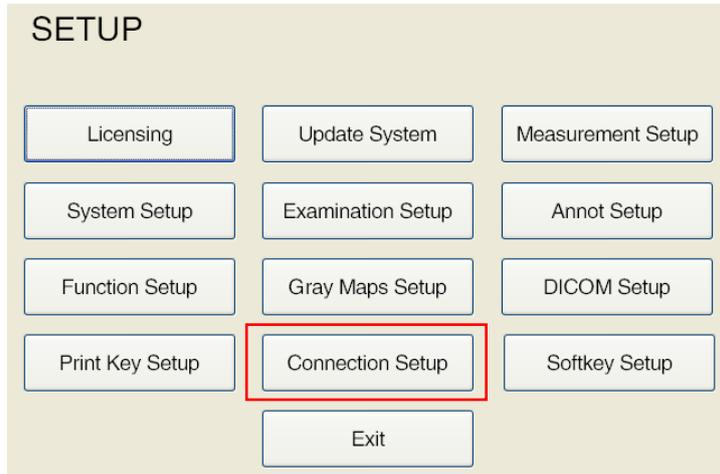

Fig. H-2 Main SETUP screen
- 1) Tap **Setup** on the touchscreen to open the main SETUP screen, as shown in Fig. H-2.